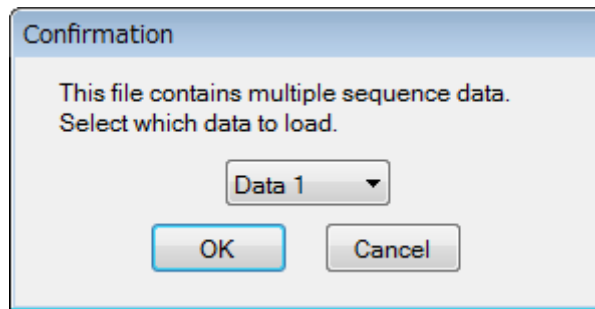

Figure 5-12 Sequence Data Select Dialog
- When you open a file created with “BP0421 Sequence Edit software” which includes sequence data of multiple BP power sources, a dialog as shown in Figure 5-12 appears. In the dialog, select one of the data, and then click **OK** to load the selected one.